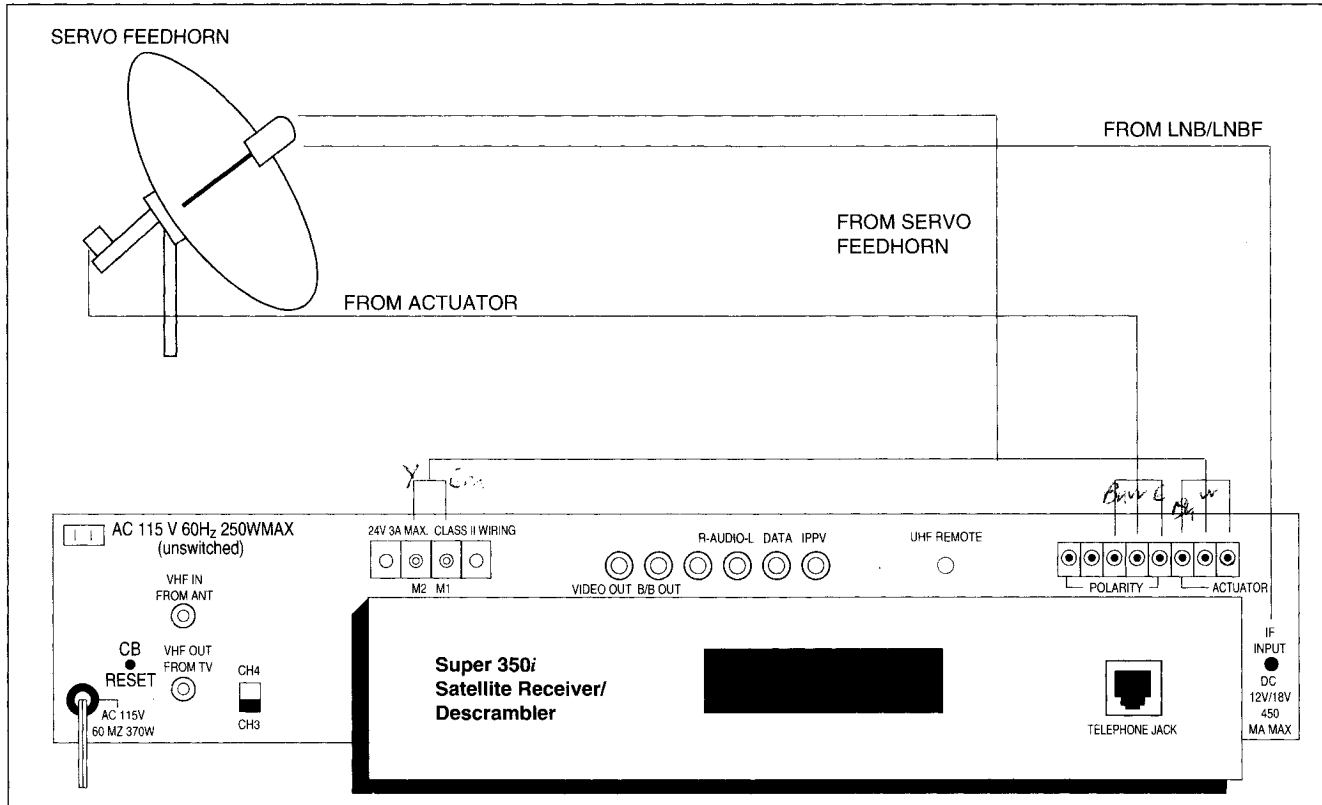

Fig. 1 Single feed (either C- or Ku-band) with servo-type feedhorn
1. If your system uses a single C- or Ku-band LNB, attach the 950-1450MHz IF cable (round) from the LNB to the "IF INPUT" connector **B18**. (See Figure 1.)